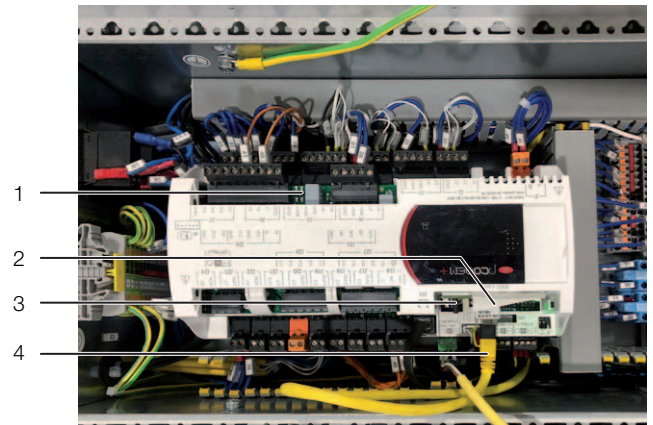

Fig. 34: pCO Web card
- Press the Reset button (fig. 34, item 3), if necessary with the assistance of a second person, and keep it held down for around 20 seconds whilst the card is booting up, until the status LED flashes three times slowly.